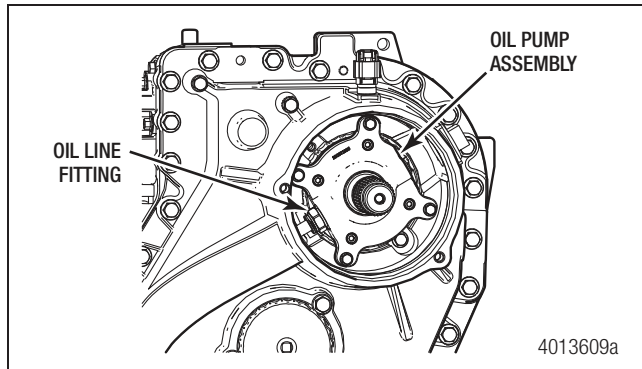
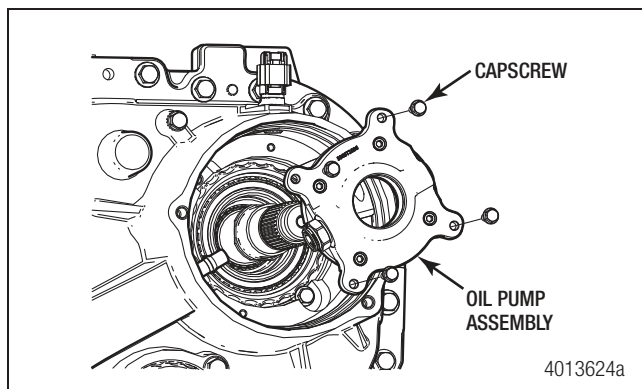

Figure 4.10
Figure 4.11
12. Remove the four capscrews and remove the oil pump assembly from the shaft. Figure 4.10 and Figure 4.11.